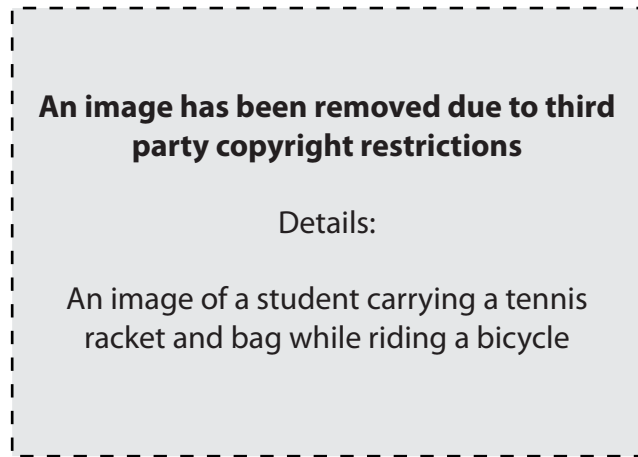

Fig. 1
- 1 Fig. 1 shows a student carrying a bag and a tennis racket while cycling.